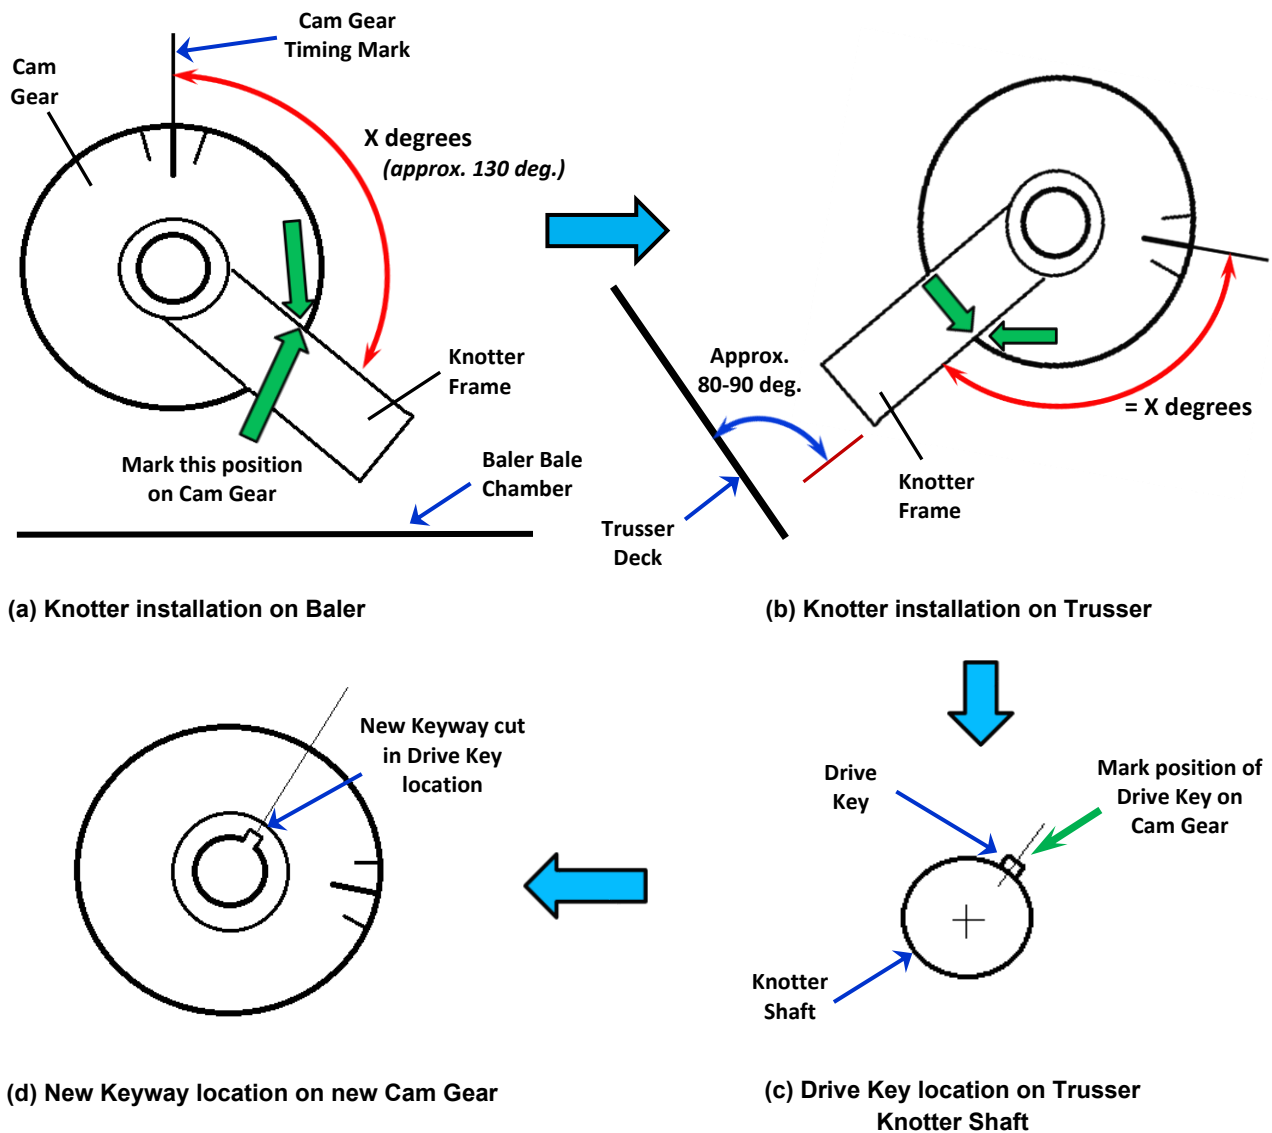

Fig.5.15 Approach to determine location of the new keyway in the replacement cam gear
- 3) Now mark the position of the (original) Knotter Shaft Drive Key on the side of the Cam Gear** (*Fig.5.15(c)*)
- Cut a new keyway in each Cam Gear (*in the marked location*) to suit the Drive Key (*Fig.5.15(d)*)